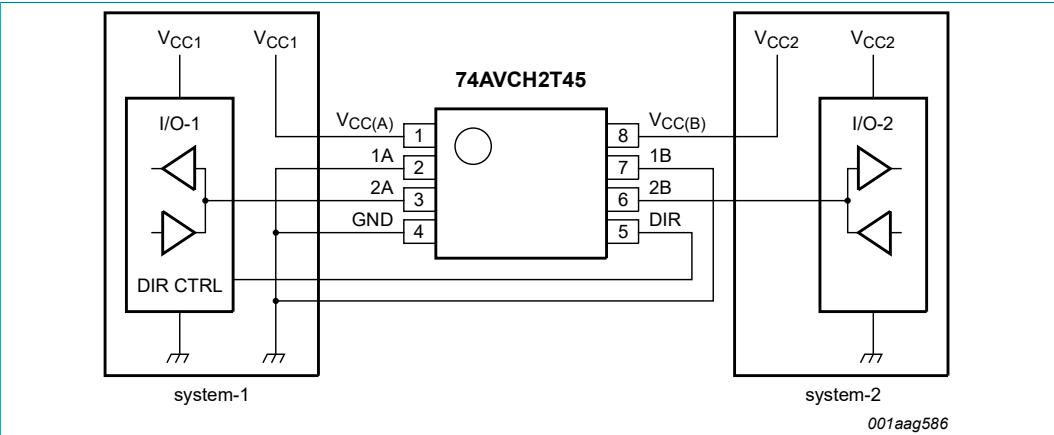

Fig. 7. Bidirectional logic level-shifting application
Fig. 7 shows the 74AVCH2T45-Q100 being used in a bidirectional logic level-shifting application. Since the device does not have an output enable (OE) pin, the system designer should take precautions to avoid bus contention between system-1 and system-2 when changing directions.